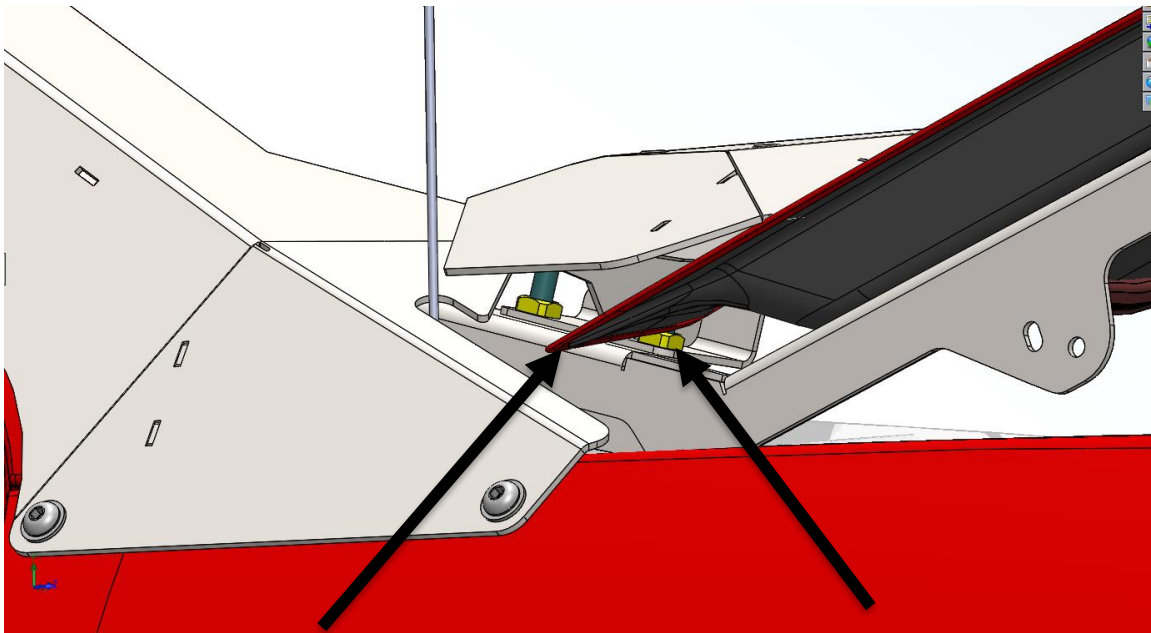

Fig 16
- q. Raise the hood slowly and hand tighten the four $\frac{3}{8}$ "-16 hex head bolts, zinc lock washers, and zinc flat washers securing the Cowl to the hood hinge brackets as shown in **Fig 16** with the arrows.